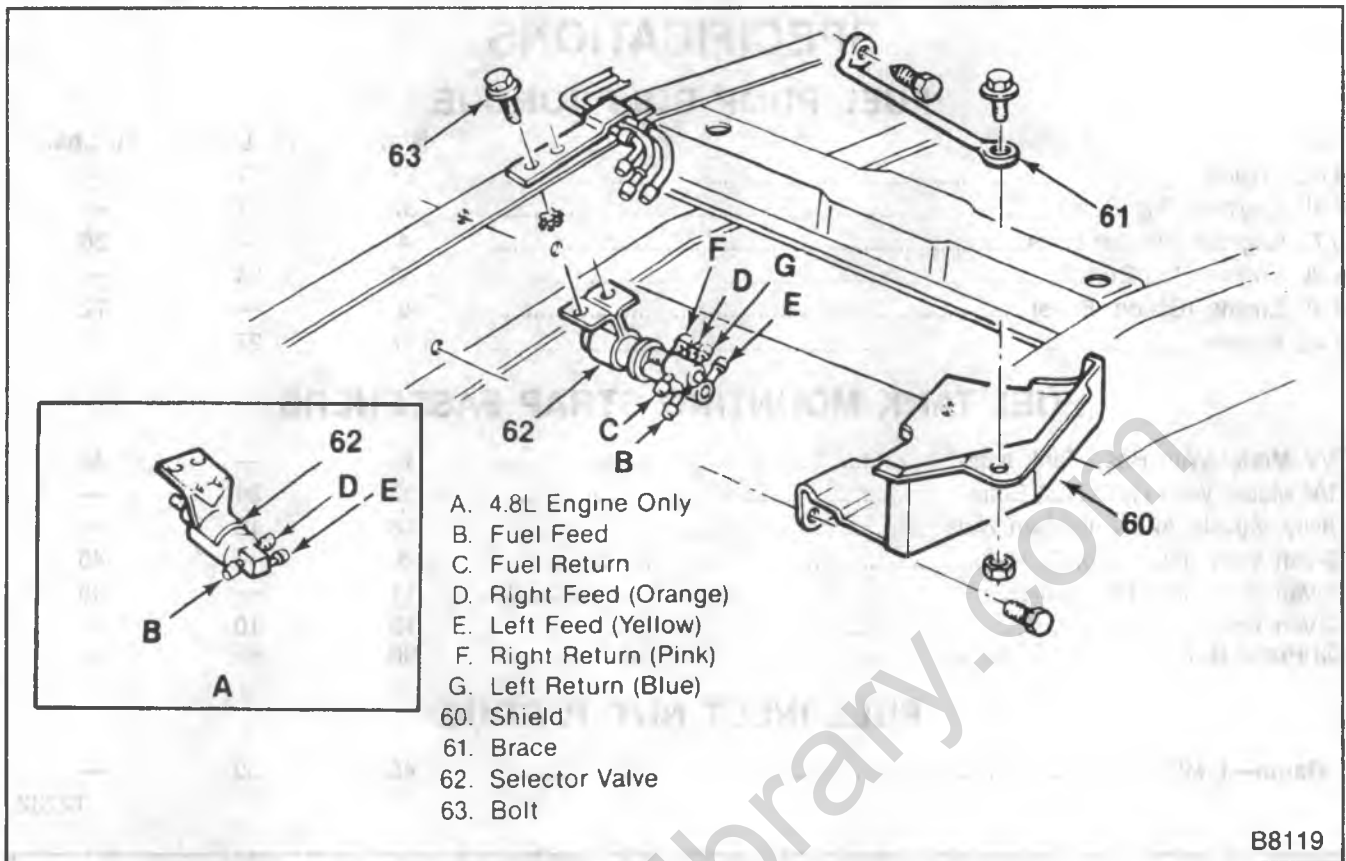

Figure 21—Selector Valve
Remove or Disconnect (Figure 21)
Install or Connect (Figure 21)
- The retainer must be installed with the tangs secured over the head of the stud (figure 21).